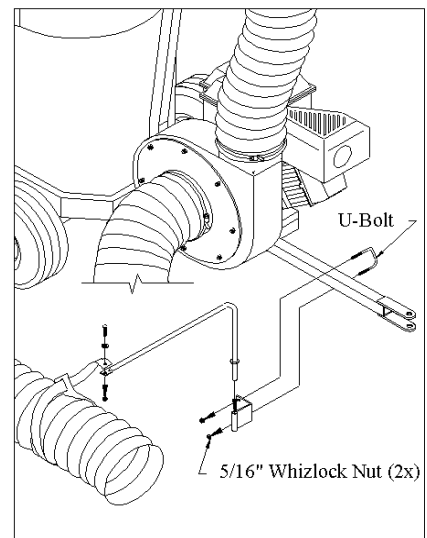

Fig. 9
9. Attach support arm bracket (29) to right side of drawbar with U-bolt (30). Slide support arm into bracket tube. Place support strap around hose, thru slit in strap and bolt to support arm. Hang support strap over edge of support arm like pictured, not over the end. Fig. 9